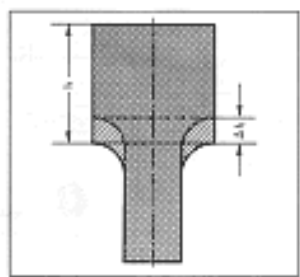

Figure 52: Reduction of the resonant frequency of a stepped sonotrode (stepped cylinder) by shortening length.
- Stepped shape (Figure 52) - shortening of length  $L$ .